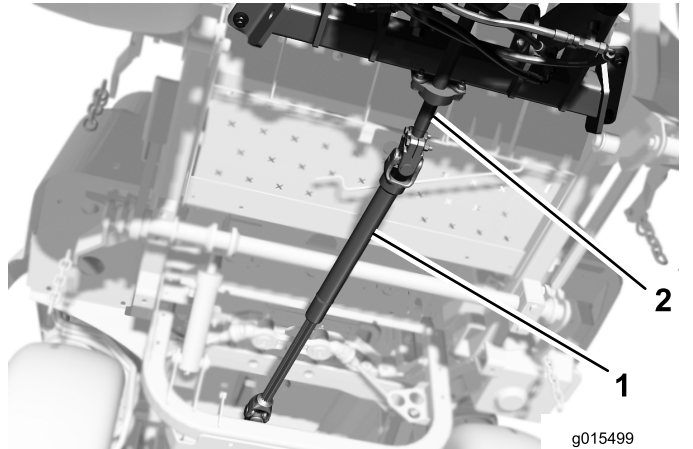

Figure 10
1. While aligning the driveshaft mounting holes with the jack shaft hole, slide the driveshaft onto the attachment jack shaft (Figure 10).